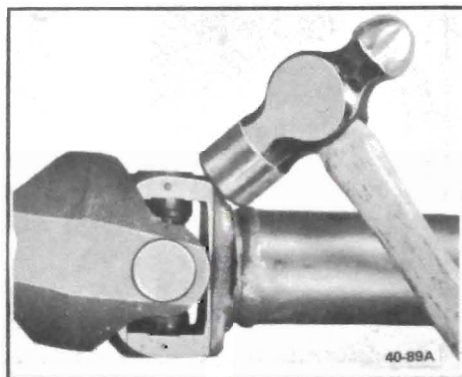

Figure 40-75 - Seating Snap Rings
yoke. Turn the spider to make certain that it is free. See Figure 40-75.
8. Strike the yoke firmly with a hammer to fully seat the snap rings against the yoke. See Figure 40-75.